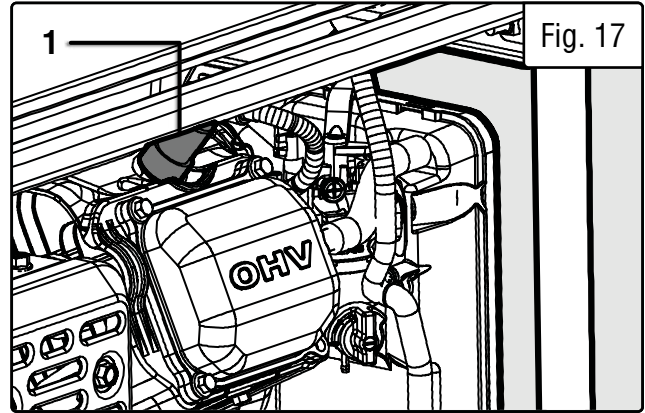

Fig. 17
1. Gently pull on the spark plug boot (Fig. 17 - 1) to remove it. Be careful not to tear any insulation or wire.